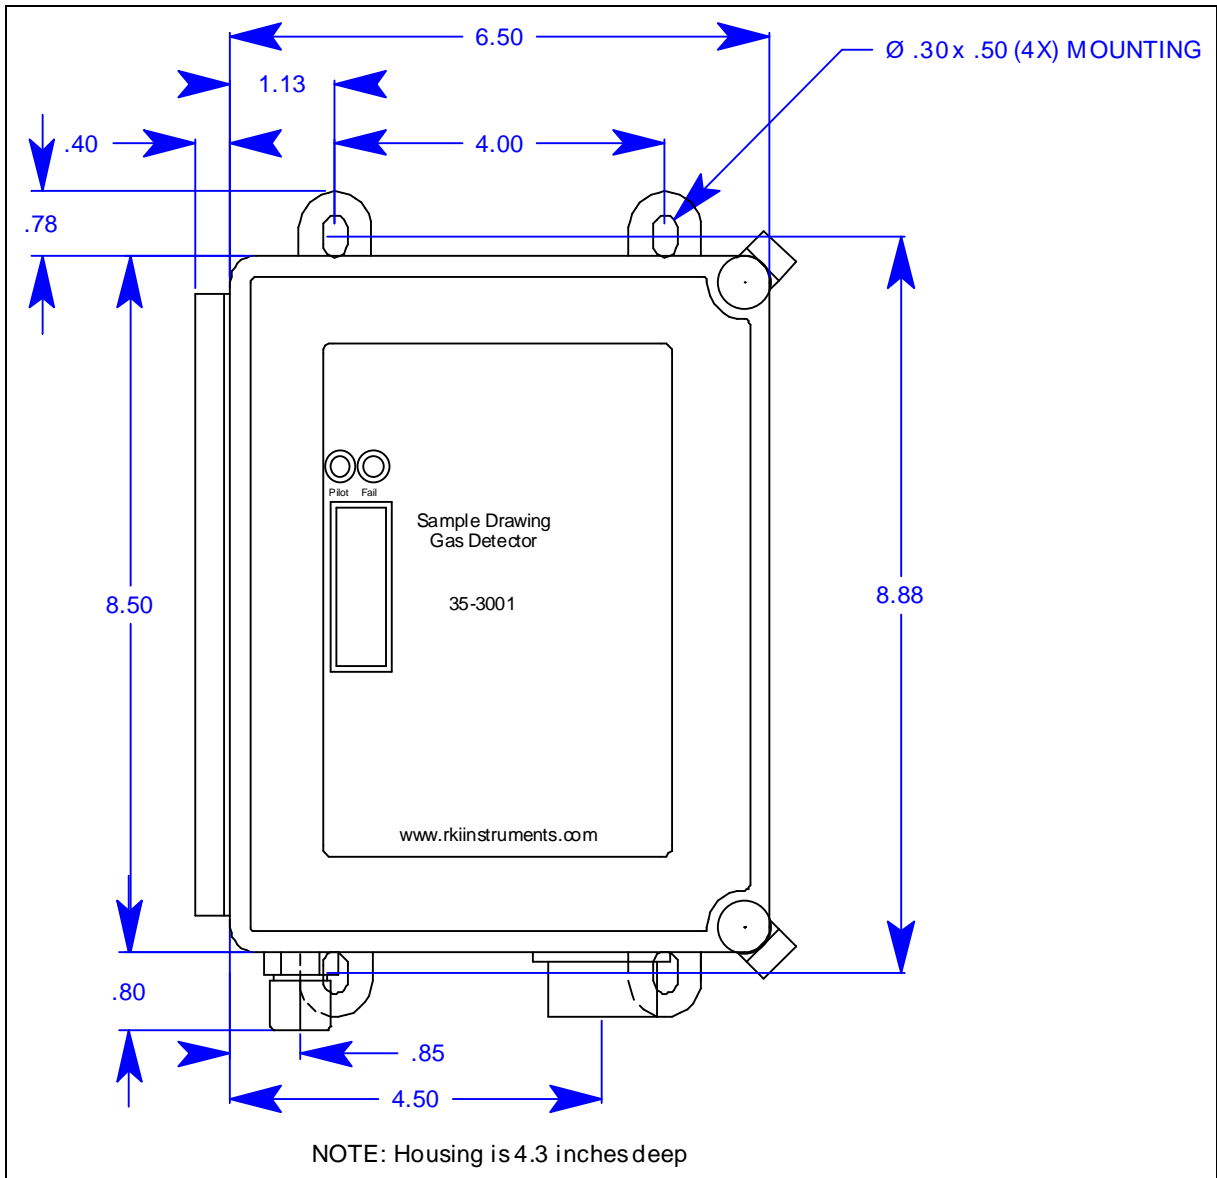

Figure 5: Outline and Mounting Dimensions
3. Slightly loosen the screw that secures the mounting foot to the housing, then rotate the mounting foot 180 degrees (see Figure 5).